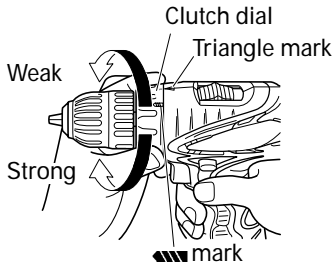

Fig. 16
7. Confirm the clutch dial position (see Fig. 16). The tightening torque of this unit can be adjusted according to the clutch dial position, at which the clutch dial is set.
- (2) Tightening torque indication (See Fig. 16)
- (3) Adjusting the tightening torque (See Fig. 16)